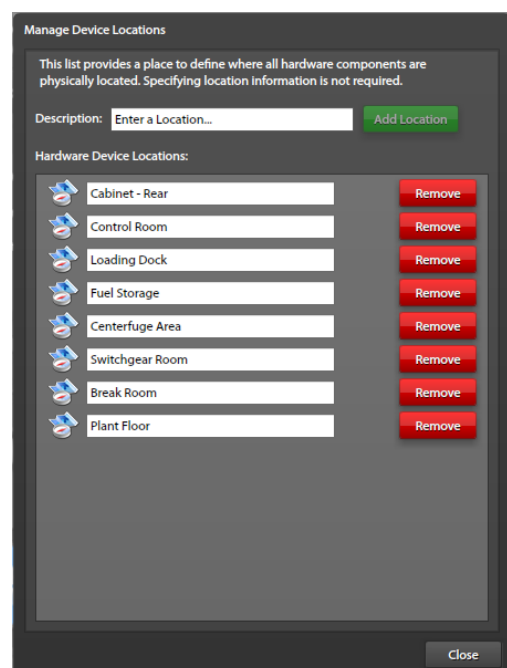

Figure 14. Manage Device Locations
1. Click the EDIT LOCATIONS button on the SYSTEM PROPERTIES screen to open the MANAGE DEVICE LOCATIONS screen (see Figure 14).